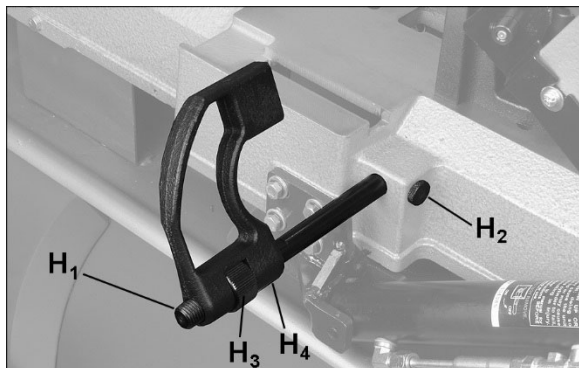

Figure 6-6: installing work stop (712DV only)
5. **712DV only:** Install work stop rod (H₁, Figure 6-6) into hole and tighten knurled nut (H₂). Install work stop onto rod threads by rotating collar (H₃). Secure position of work stop by tightening set screw (H₄) onto rod flat.